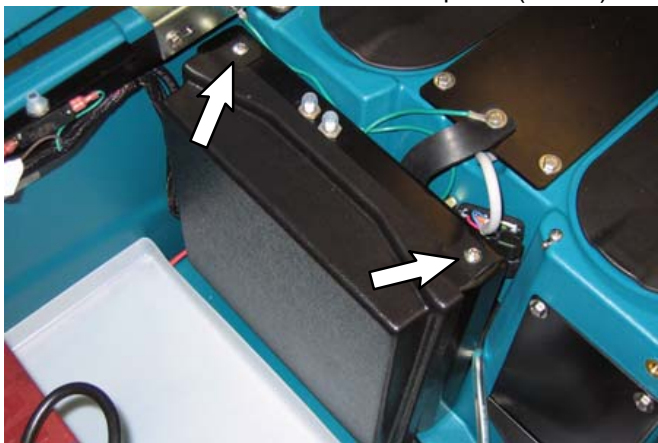

FIG. 3
2. Remove cover from the electrical panel (FIG. 3).